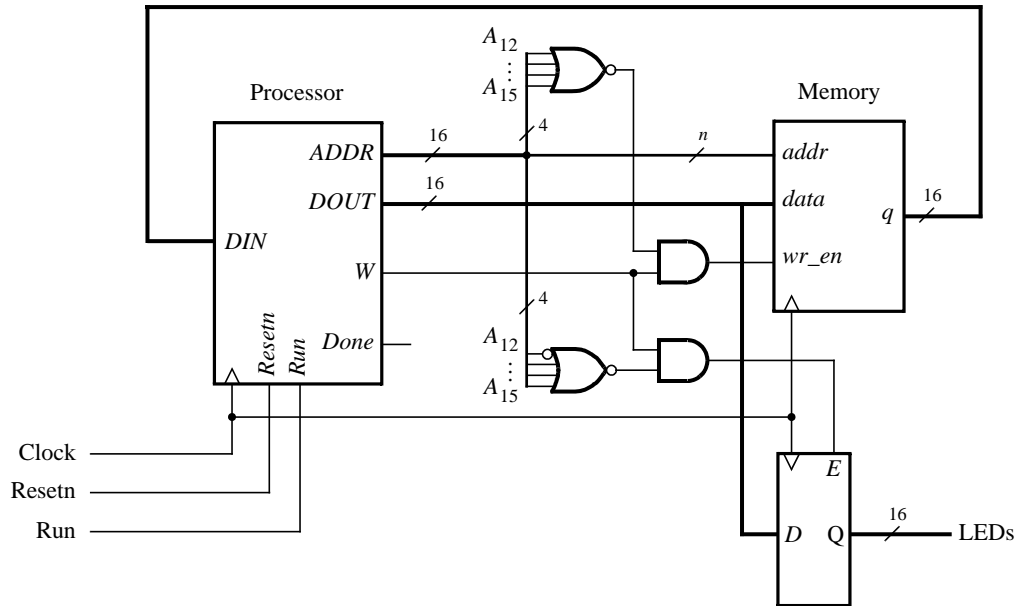

Figure 8. Connecting the enhanced processor to a memory and output register.
Figure 8 illustrates how the enhanced processor is connected to memory and other devices. The memory unit in the figure supports both read and write operations and therefore has both address and data inputs, as well as a write enable input. The memory also has a clock input, because the address, data, and write enable inputs must be
loaded into the memory on an active clock edge. This type of memory unit is usually called a *synchronous random access memory* (*synchronous RAM*). Figure 8 also includes a 16-bit register that can be used to store data from the processor; this register might be connected to a set of LEDs to allow display of data on the DE2 board. To allow the processor to select either the memory unit or register when performing a write operation, the circuit includes some logic gates that perform *address decoding*: if the upper address lines are  $A_{15}A_{14}A_{13}A_{12} = 0000$ , then the memory module will be written at the address given on the lower address lines. Figure 8 shows  $n$  lower address lines connected to the memory; for this exercise a memory with 128 words is probably sufficient, which implies that  $n = 7$  and the memory address port is driven by  $A_6 \dots A_0$ . For addresses in which  $A_{15}A_{14}A_{13}A_{12} = 0001$ , the data written by the processor is loaded into the register whose outputs are called *LEDs* in Figure 8.
2. Write VHDL code for the processor and test your circuit by using functional simulation: apply instructions to the *DIN* port and observe the internal processor signals as the instructions are executed. Pay careful attention to the timing of signals between your processor and external memory; account for the fact that the memory has registered input ports, as we discussed for Figure 8.
3. Create another Quartus II project that instantiates the processor, memory module, and register shown in Figure 8. Use the Quartus II MegaWizard Plug-In Manager tool to create the ALTSYNCRAM memory module. Follow the instructions provided by the wizard to create a memory that has one 16-bit wide read/write data port and is 128 words deep. Use a MIF file to store instructions in the memory that are to be executed by your processor.
Connect the *LEDs* register in Figure 8 to *LEDR*15–0 so that you can observe the output produced by the processor.
1. Create a Quartus II project for your circuit and write the VHDL code that includes the circuit from Figure 8 in addition to your *seg7\_scroll* module.